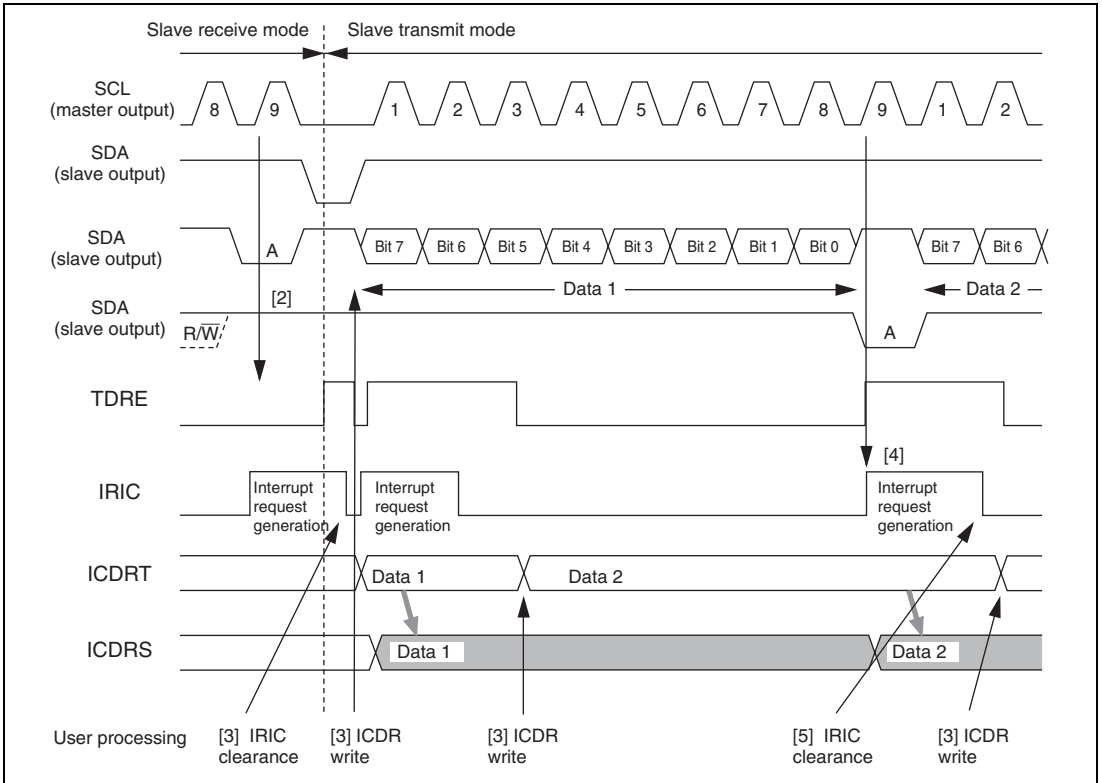

Figure 18.18 Example of Slave Transmit Mode Operation Timing (MLS = 0)
- (1) Set the ICE bit in ICCR to 1. Set the MLS bit in ICMR and the MST and TRS bits in ICCR according to the operating mode.
- (2) When the slave address matches in the first frame following detection of the start condition, the slave device drives SDA low at the 9th clock pulse and returns an acknowledge signal. At the same time, the IRIC flag in ICCR is set to 1. If the IEIC bit in ICCR has been set to 1, an interrupt request is sent to the CPU. If the 8th data bit (R/W) is 1, the TRS bit in ICCR is set to 1, and the mode changes to slave transmit mode automatically. The TDRF flag is set to 1. The slave device drives SCL low from the fall of the transmit clock until ICDR data is written.
- (3) After clearing the IRIC flag to 0, write data to ICDR. The TDRE internal flag is cleared to 0. The written data is transferred to ICDRS, and the TDRE internal flag and the IRIC and IRTR flags are set to 1 again. After clearing the IRIC flag to 0, write the next data to ICDR. The slave device sequentially sends the data written into ICDR in accordance with the clock output by the master device at the timing shown in figure 18.18.
- (4) When one frame of data has been transmitted, the IRIC flag in ICCR is set to 1 at the rise of the 9th transmit clock pulse. If the TDRE internal flag has been set to 1, this slave device drives SCL low from the fall of the transmit clock until data is written to ICDR. The master device drives SDA low at the 9th clock pulse, and returns an acknowledge signal. As this acknowledge signal is stored in the ACKB bit in ICSR, this bit can be used to determine whether the transfer operation was performed normally. When the TDRE internal flag is 0, the data written into ICDR is transferred to ICDRS, transmission is started, and the TDRE internal flag and the IRIC and IRTR flags are set to 1 again.
- (5) To continue transmission, clear the IRIC flag to 0, then write the next data to be transmitted into ICDR. The TDRE flag is cleared to 0.